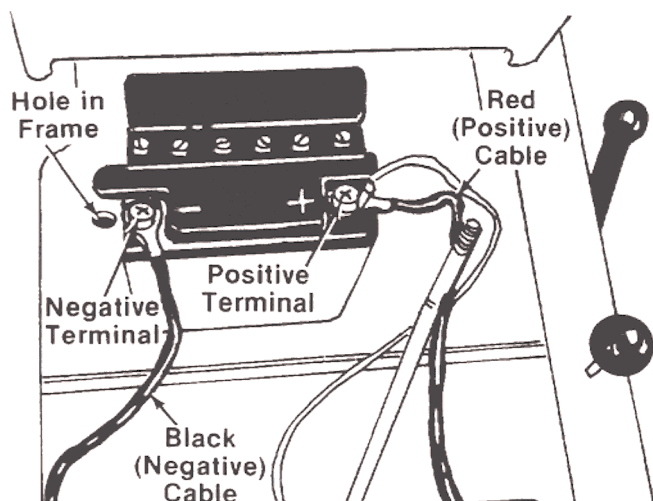

FIGURE 7.
4. Place the battery in the lawn tractor so that the positive terminal is facing the right side of —the unit. See figure 7.
5. Slide the square nut (provided with battery hardware) into the positive (+) terminal. Place the positive (heavy red wire) cable and the small red wire on the positive terminal. Secure with screw and lock washer provided. See figure 7.
7. Hook one hold-down rod (G) into the hole in the frame beside the battery. See figure 7. Place the battery cover (F) in position over the hold-down rod. Secure with wing nut (H). Attach other hold-down rod to the other side of battery cover in the same manner. See figure —8.